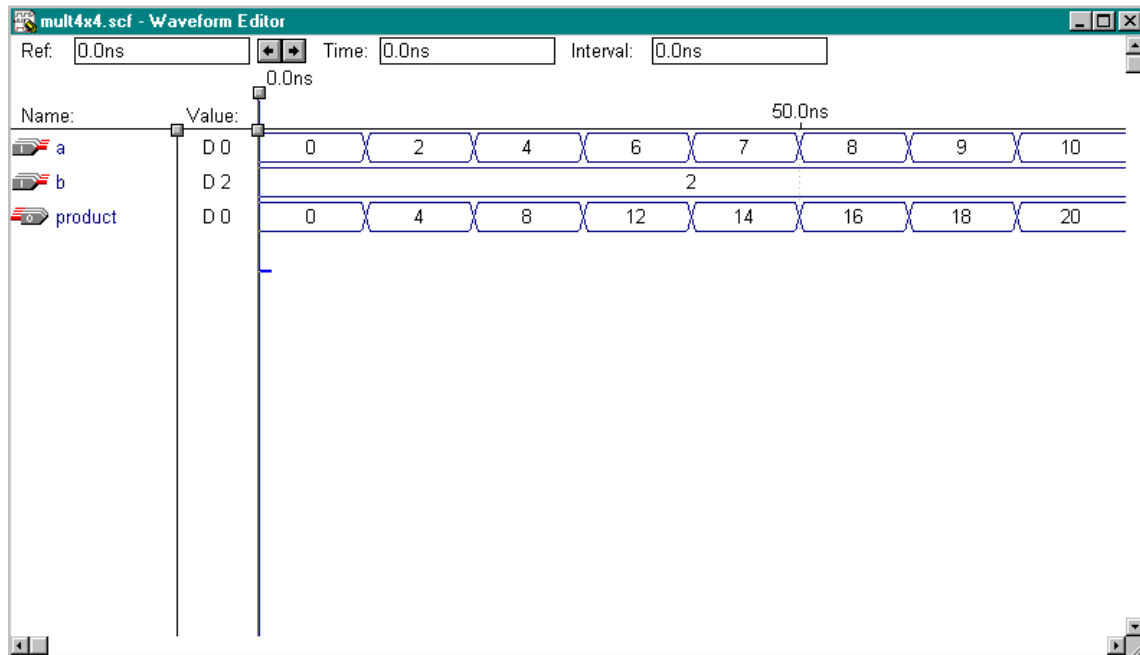

Figure 1-2b.
5. Check to see if you get the same results shown in Figure 1-2b.